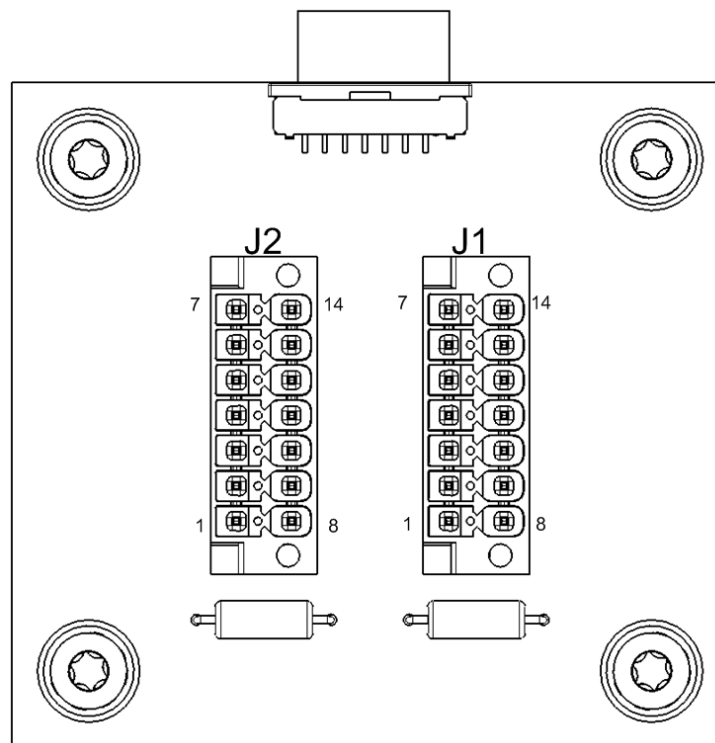

**Figure 17 - AC Terminal Block Connections**
4. Connect the three utility phase cables to the AC terminal block as shown in Figure 17.
5. The neutral connection (N) is provided for 4-wire grid-forming or standalone operation. This terminal should be left unconnected for grid-tie only applications. When the neutral connection is used, **REG 41829 – AC Connection Type** must be set to '1' to indicate 4-wire operation.